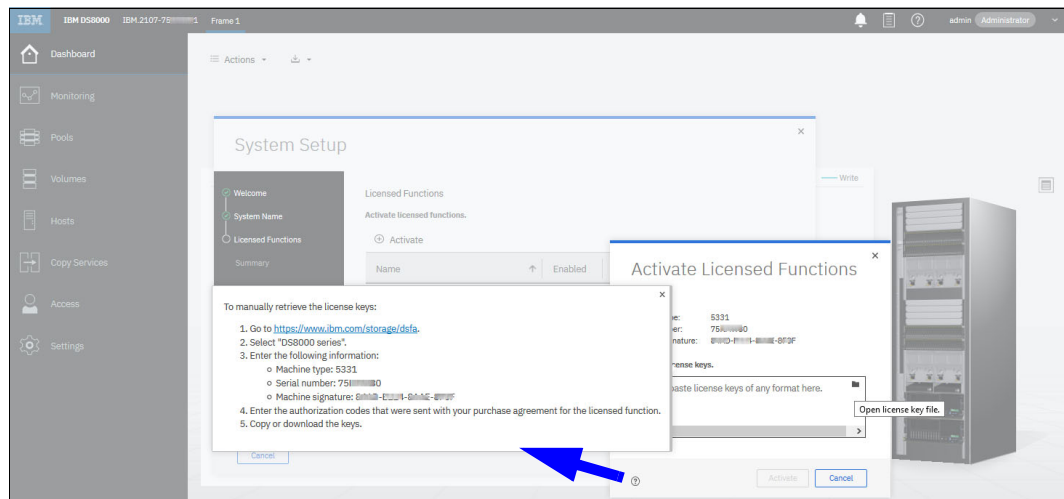

Figure 7-2 Entering the license keys with help
- To begin the guided procedure to acquire and activate your feature activation keys, select **System Setup** → **Licensed Functions**, and then complete the **Activate Licensed Functions** routine, as shown in Figure 7-2.
9. Click **Activate** to enter and activate your licensed keys, as shown in Figure 7-2 on page 208.